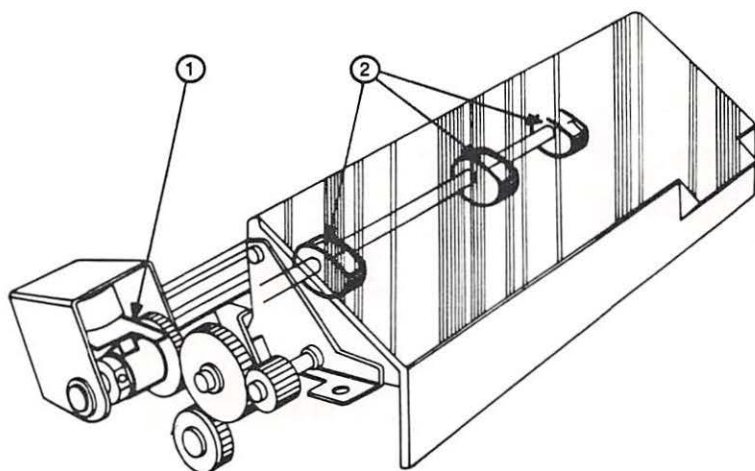

FIGURE 2-49
- b) **IMPORTANT:** Make sure the projection on the white plastic gear is engaging the pawl (gear-stop) on the solenoid (see Figure 2-49, #1). With the gears in that position, turn the roller so that the FLAT side faces up (see Figure 2-49, #2).